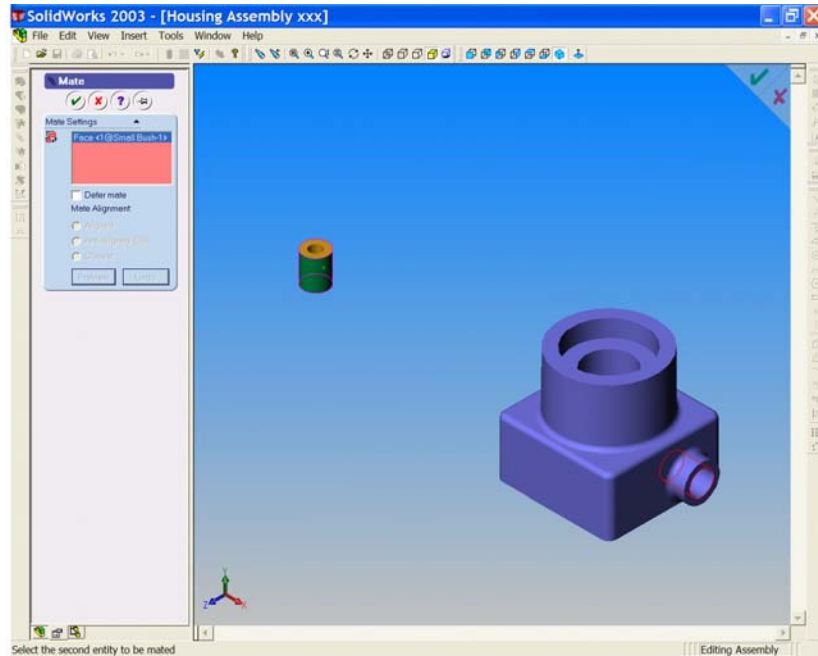

Figure 10
- Place the cursor on the outer cylindrical surface of the small bush, and left click to select it. The surface is highlighted, the cursor flag is visible and the selected surface is added to the 'Entities to mate' window. Now place the cursor on the small bore at the right side of the housing. See Figures 10 & 11.